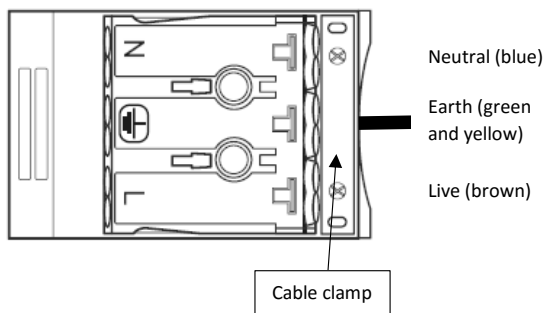

Fig4
- Connect the Live (brown), Neutral (blue) and Earth (green and yellow) to the push-fit terminal block ensuring the correct polarity is observed (see Fig 4). Ensure the cable clamp is used to secure the cable